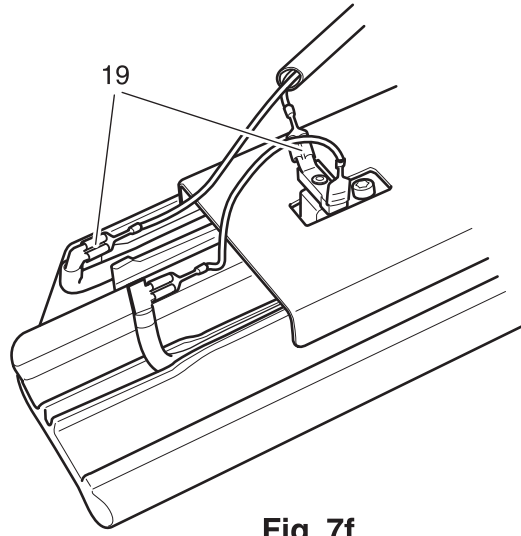

Fig. 7f
- Disconnect plugs 19 (fig. 7f).